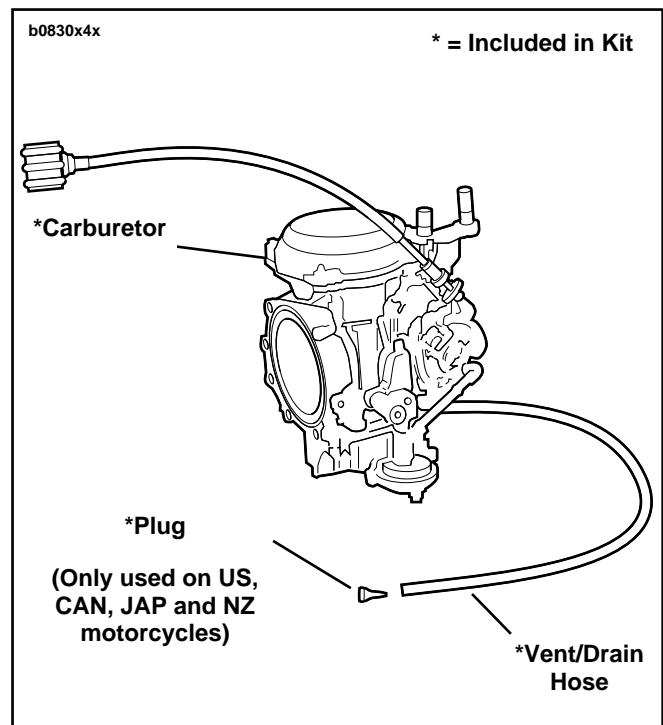

Figure 2. Carburetor and Plug (DOM Only)
11. **Domestic models (US, CAN, NZ and JAP) only:** See Figure 2. Install plug provided in kit to **new** carburetor drain hose. Push plug into place.